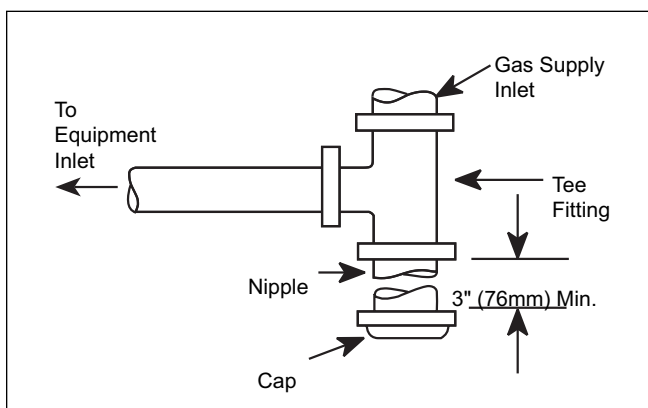

Figure 8 - Sediment Trap Installation
- A sediment trap (drip leg) must be provided ahead of the gas controls (see Figure 8). A manual gas shutoff valve must also be provided for service convenience and safety. Check the local codes.